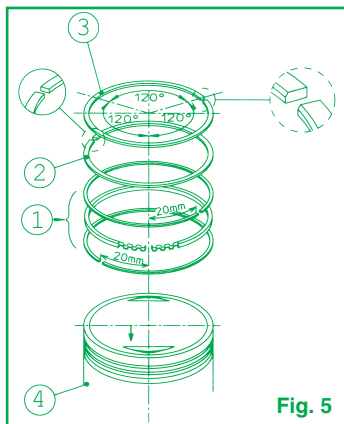

Fig. 5
- Fit the scraper ring expander in the special piston groove, then complete the scraper ring assembly by fitting first the lower and then the upper scraper ring (Fig. 5 - Part. 1).
- Fit the second piston ring with the printing turned towards the piston upper part as indicated in Fig.5 - Part. 2.
- Fit the first compression piston ring with the printing turned towards the piston upper part as indicated in Fig.5 - Part 3.
- Position the piston rings openings as shown in Fig. 5.
- Recheck that the piston rings openings are positioned as shown in Fig. 5.